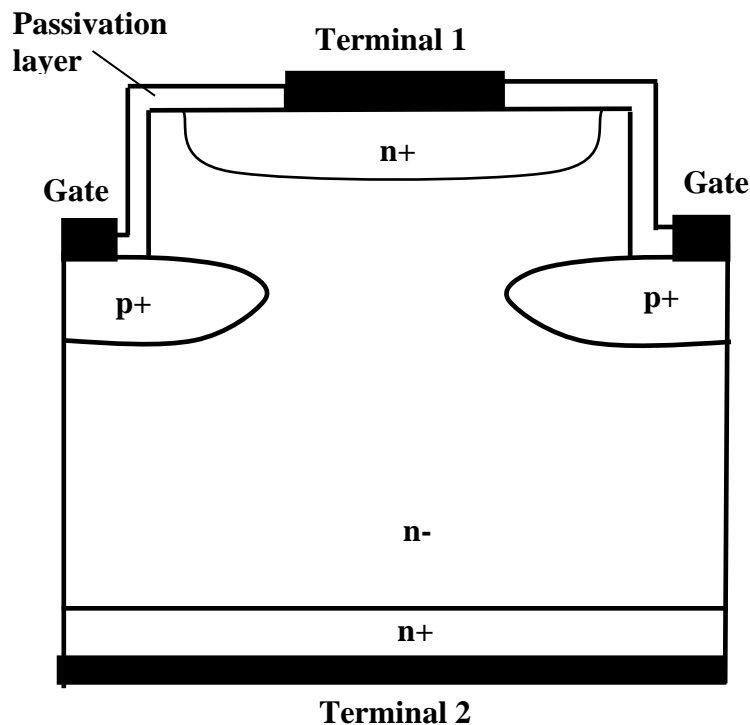

Fig. 3
3. The cell structure in Fig. 3 represents a junction-controlled power device made in vertical Gallium Nitride technology.